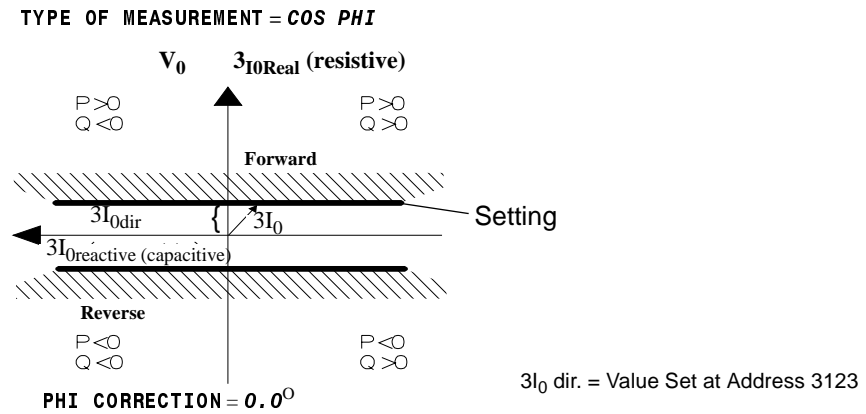

Figure 6-32 Directional Lines for cos-φ Measurement
Figure 6-32 illustrates the directional characteristic of the sensitive ground fault detection function using a complex vector diagram in which the displacement voltage V_0 is the reference magnitude. Address 3125 is set to **COS PHI**, therefore, the current $3I_{0real}$ is calculated and compared with the value set at address 3123. The directional limit lines are perpendicular to $3I_{0real}$.
- Address 3125 = **cos** ϕ : the real component of the zero sequence current with respect to the displacement voltage (the component of $3I_0$ in phase with V_0 or $3V_0$) is evaluated by the setting at address 3123 (see Figure 6-32);